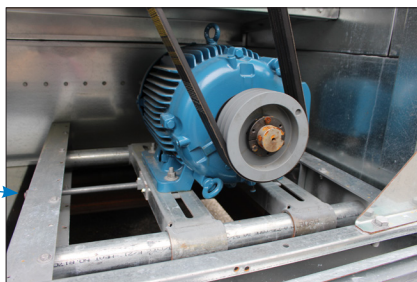

Figure 4. Motor Adjusting Screw
- Using a wrench or impact gun, turn the motor base adjusting screw (**Figure 4**) clockwise to tension the belt or counterclockwise to relieve belt tension. During adjustment of the belt tension, rotate the drives several times by hand to evenly distribute the tension throughout the belt.
Coat the motor base slides and adjusting screws (refer to **Figure 4**) prior to start-up, every three months while in operation, and following shutdown. Use good quality, corrosion inhibiting grease such as one of those recommended for lubricating the fan shaft bearings on **page 14**.